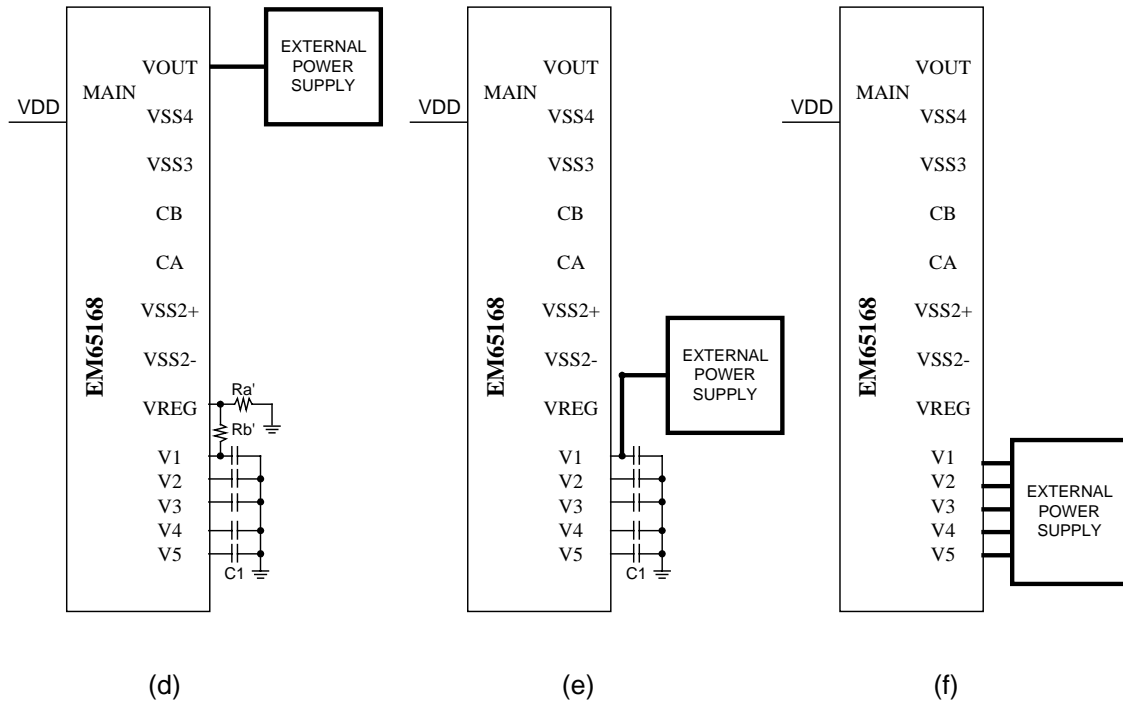

FIG. 13
(9) Reference circuit examples are as following FIG. 13